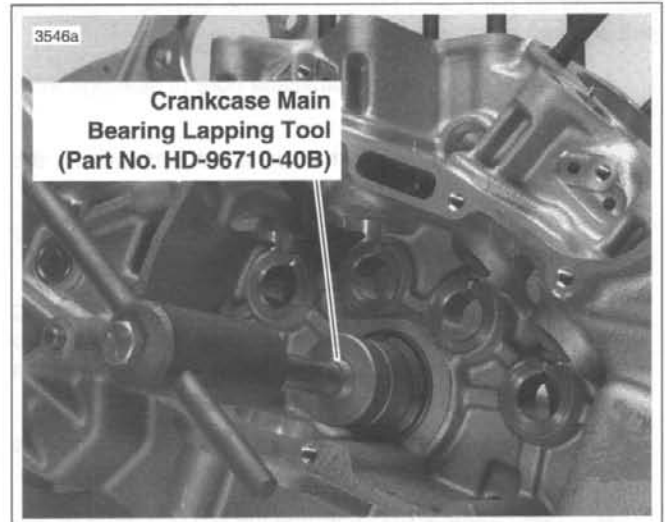

Figure 3-139. Lapping Pinion Shaft Main Bearing
- See Figure 3-139. Obtain CRANKCASE MAIN BEARING LAPPING TOOL (Part No. HD-96710-40B). Assemble CRANKCASE MAIN BEARING LAP (Part No. HD-96718-87) to lapping handle. Assemble guide sleeve to sprocket shaft bearing bushing. Sleeves, for use with tapered bearing, are assembled to case with bearings and small spacer collar. Finger-tighten the sleeve parts.